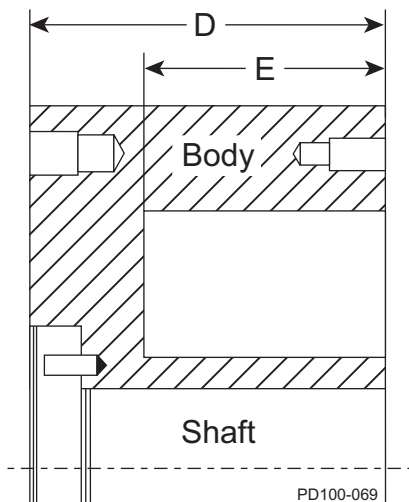
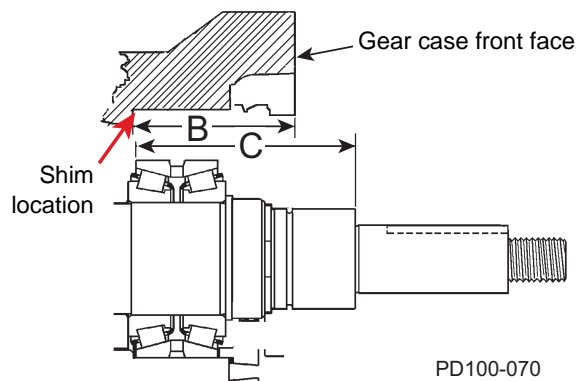

Figure 53 - Measure D and E
Figure 54 - Measure B and C
- If it is necessary to calculate the required shims for replacement shafts, bearings or both, refer to Figure 54 and Figure 53; carry measurements and calculations to three decimal places (e.g., .059).
- Measure "B" in the gear case and "C" on the shaft (Figure 54).
- Measure "D" and "E" on the body (Figure 53).
- (Callouts for both Figure 53 and Figure 54)